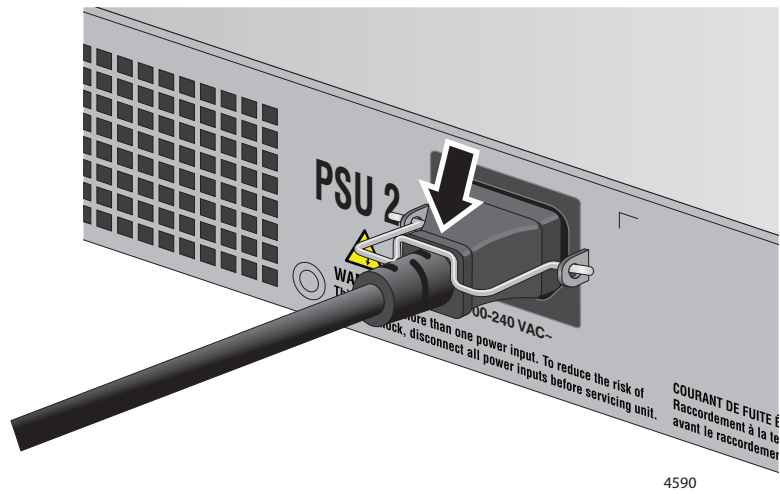

Figure 29. Lowering the Power Cord Retaining Clips
3. Lower the power cord retaining clips to secure the cords to the switch. Refer to Figure 29.